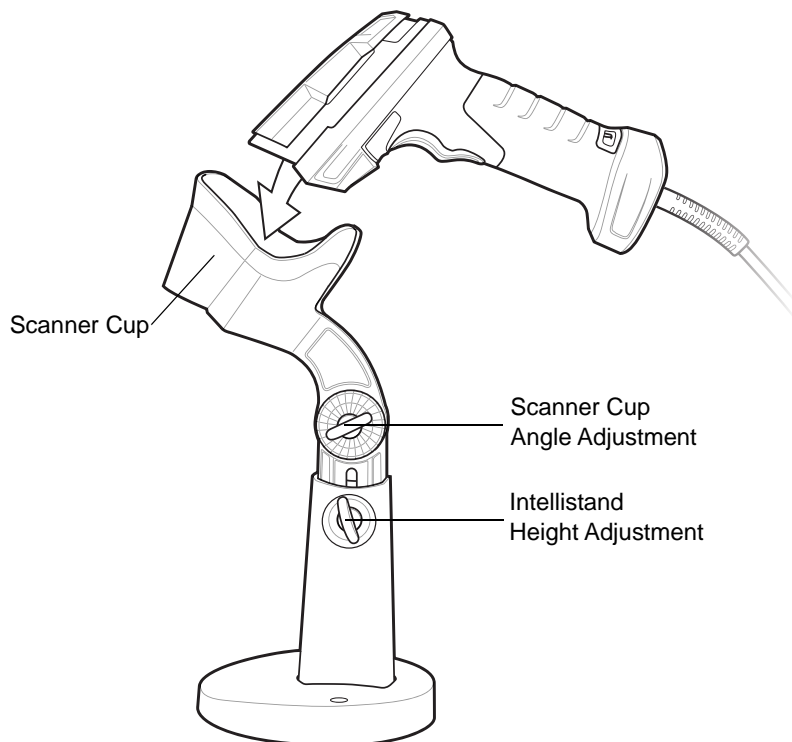

Figure 2-5 Scanning DS3608 in Hands-free Mode
2. Insert the digital scanner in the Intellistand by placing the front of the digital scanner into the scanner cup (see Figure 2-5).